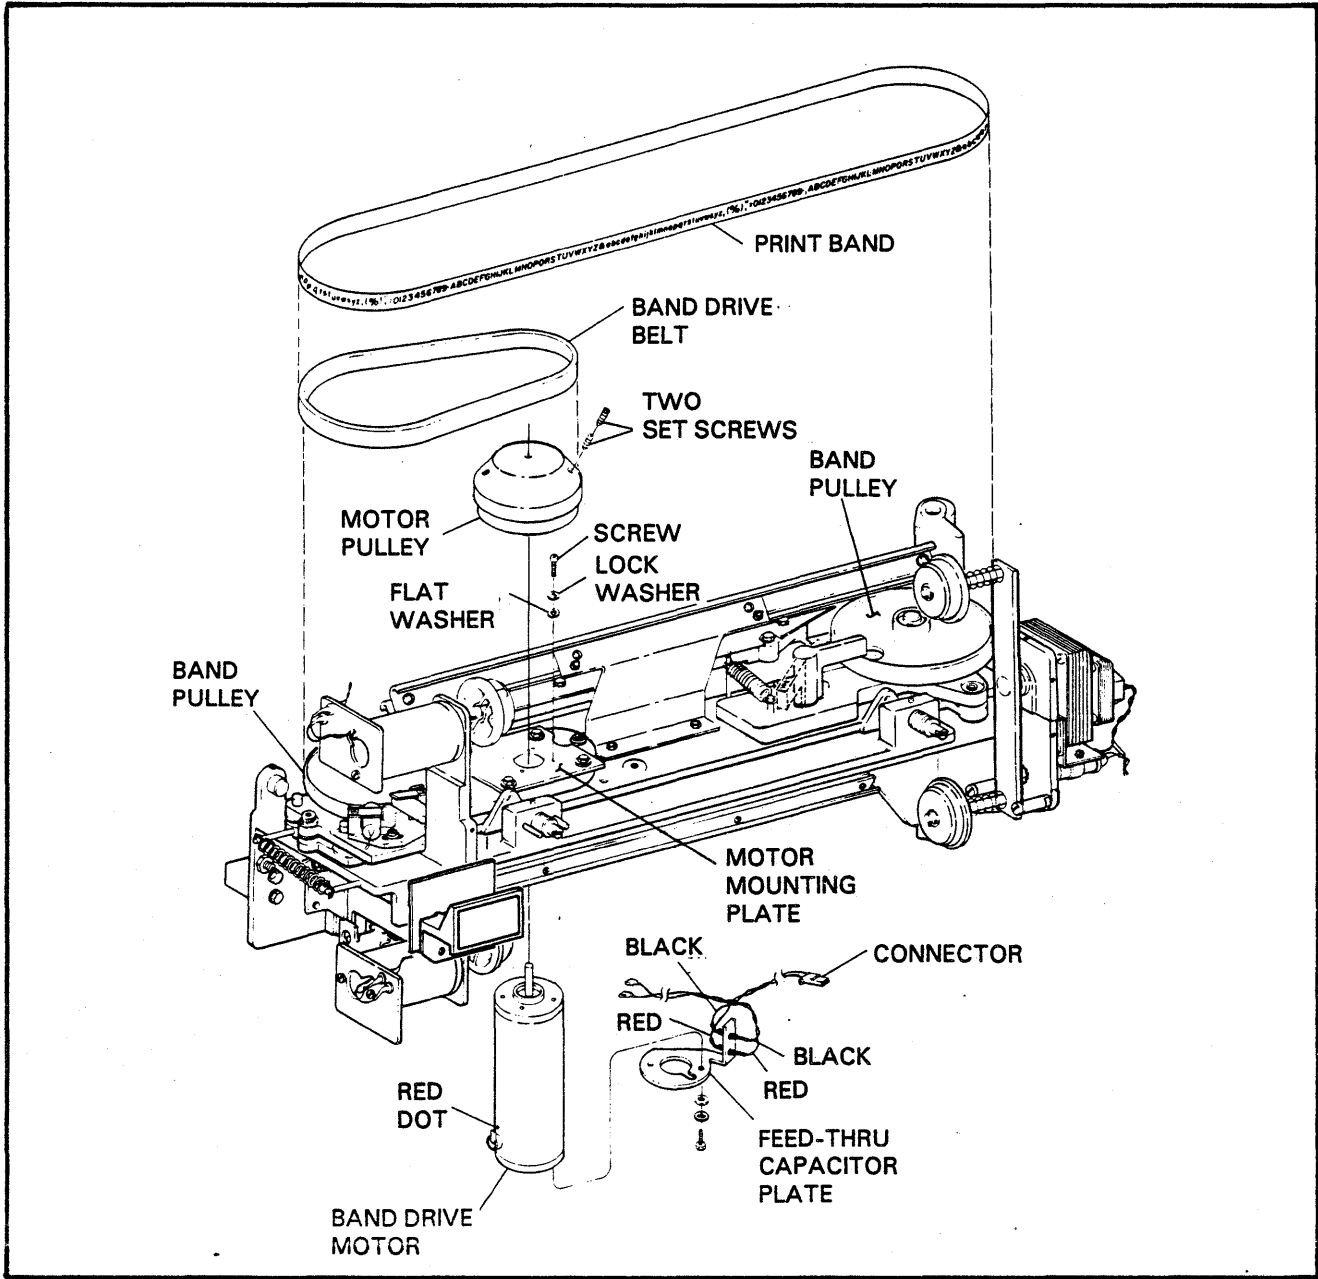

FIGURE 6-10. BAND DRIVE MOTOR REPLACEMENT
**TRACTOR FLAP REPLACEMENT (FIGURE 6-10)**
5. Remove one hex. socket set screw then loosen the second hex. socket set screw in motor pulley and remove pulley. (See Figure 6-10).